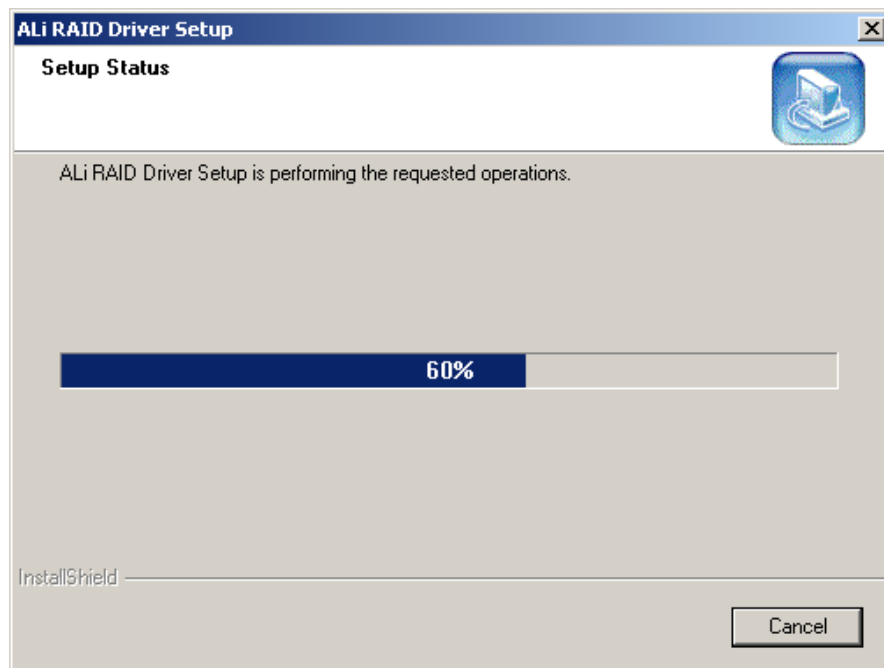

**Figure 6-2: RAID Driver Install Wizard Welcome Screen**
**Step 3:** Once initialized, the Install Wizard welcome screen appears (Figure 6-2).